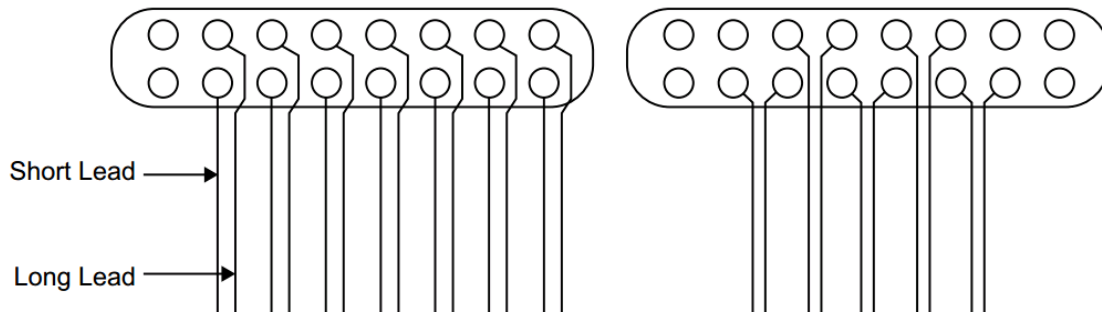

Figure 6 LVDS connector layout
- Figure 6 show the result of characteristic impedance calculator (unit mil).